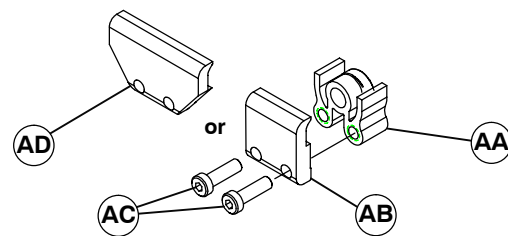

Figure 12
- Typical return roller components (Figure 12)